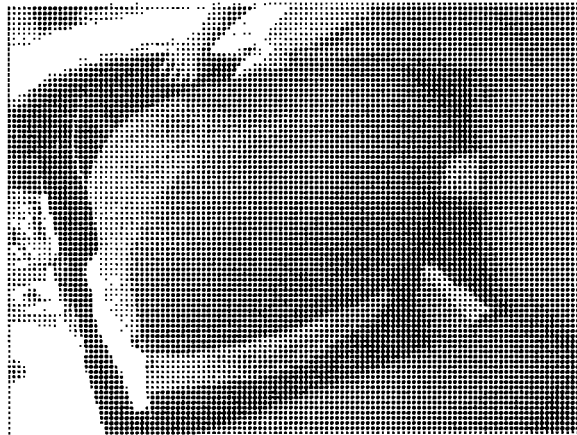

FIGURE 6.
- b. Starting at the bottom, roll the cover up one or two rolls; then, grasping the rolled material, slip the cover upward until the upper left corner of the seat back is exposed. See FIGURES 6 & 7.